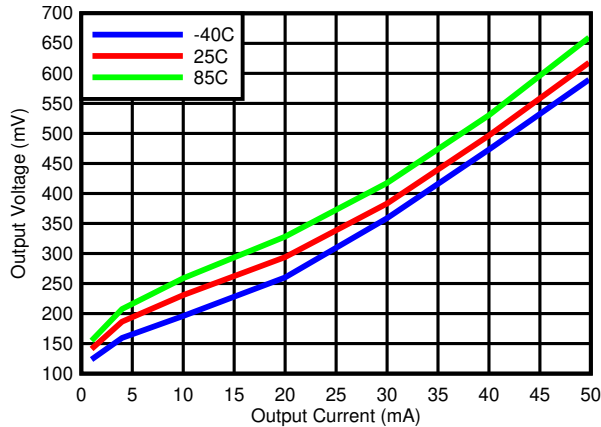

Figure 5-3. Output Voltage vs Output Current
The output consists of an open drain NPN (pull-down or low side) transistor. The output NPN sinks current when the negative input voltage is higher than the positive input voltage and the offset voltage. The  $V_{OL}$  is resistive and scales with the output current. Please see Figure 5-3 for  $V_{OL}$  values with respect to the output current.
Output current is determined by the pull-up resistance ( $R_{pullup}$ ) and  $V_{logic}$  voltage, refer to Figure 7-1. The output current produces a output low voltage ( $V_{OL}$ ) from the comparator. In which  $V_{OL}$  is proportional to the output current. Use Figure 5-3 to determine  $V_{OL}$  based on the output current.
- $R_{CE}$  can be determine by taking the slope of Figure 5-3 in it's linear region at the desired temperature, or by dividing the  $V_{OL}$  by  $I_{out}$